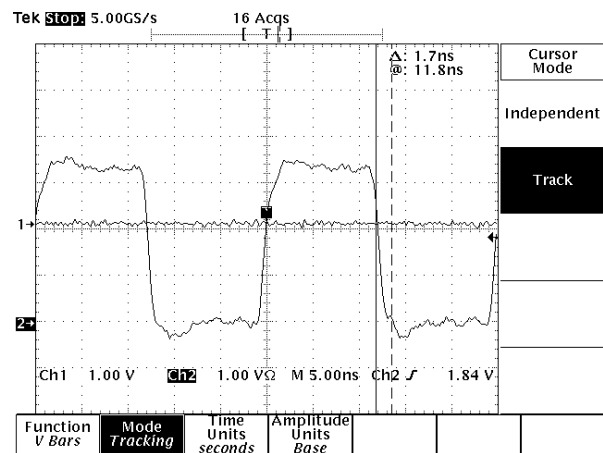

Figure 10:  $68\ \Omega$ ; h.s.p. in the backplane
- The high speed probe is placed directly in the backplane; the signal (fig. 10) is clean, as expected; after this last measure we can conclude that the main problems arise from the read out PCB; from here the need of finding good recommendations for the designers of the read out PCBs (VME64x, in particular), like for example the use of point to point connection instead of multipoint, at least for the most critical lines.